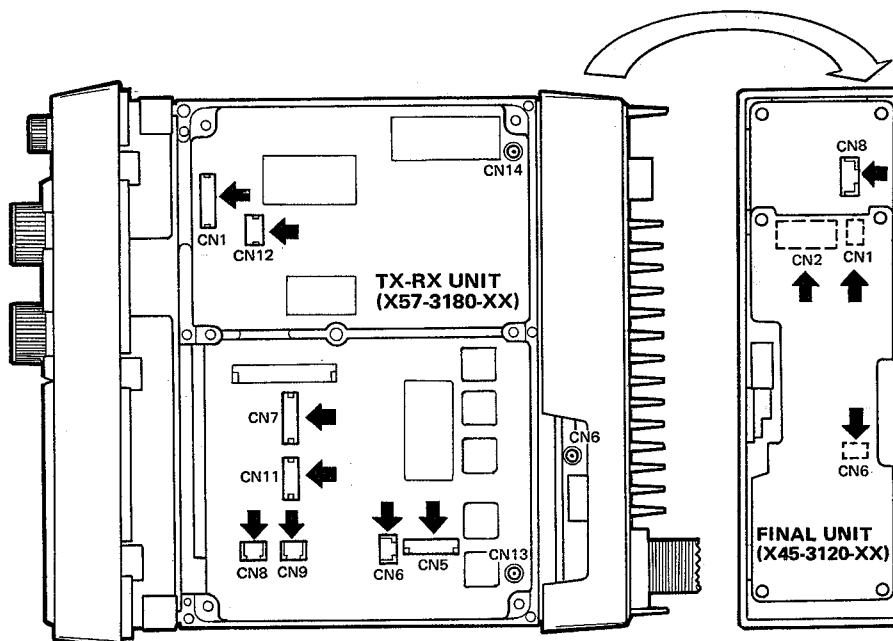

Fig. 3
1. Remove the four screws (5) from the side of the Final unit heat sink, and move the Final unit backward and out (6).
2. Remove the eight connectors from the TX-RX unit, and remove the two connectors and the two coaxial plugs from the Final unit (See Fig. 3).
3. Move the front panel toward the front and out (7).
4. Remove the four screws (8) retaining the Control unit, and disconnect the Control unit from the TX-RX connector (9).
5. Remove the leaf spring holding the three ICs to the frame, using a screwdriver (10).
6. Remove the seven screws from the bottom of the frame. Then remove the frame from the TX-RX unit (11).